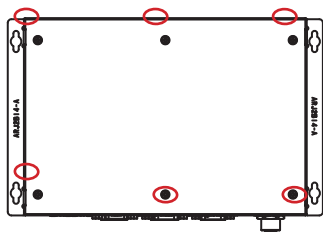

Figure 1
1. Remove the six screws on both sides of the bottom case(Figure 1).